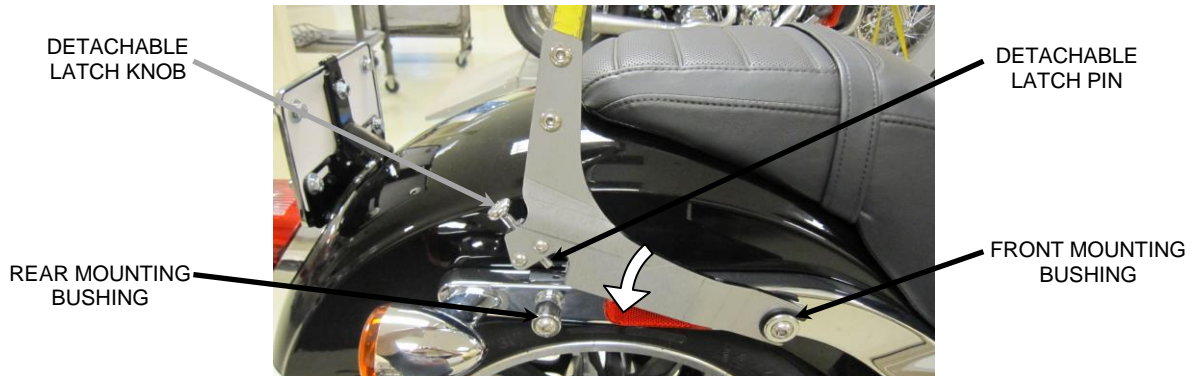

FIGURE 4
6. Install the sissy bar onto the bike by first inserting the front portions of the side brackets on to the front mounting bushings on the frame rails. Make sure the sissy bar is seated all the way onto the mounting bushings. See **FIGURE 4**.
7. Then slowly rotate the sissy bar downward so the rear portions of the brackets slip over the rear mounting bushings. See **FIGURE 4**.